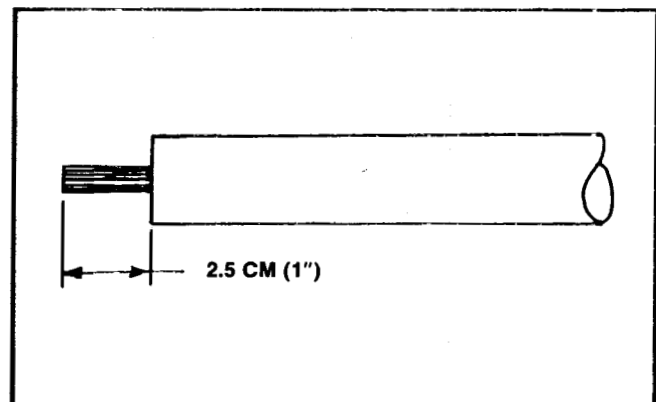

Figure 135
2. Slide the shaft into the drive tube until it engages the splined clutch shaft and bottoms out. The shaft should extend approximately 2.5 cm (1 inch) from the drive tube when it is fully seated. See Figure 135.